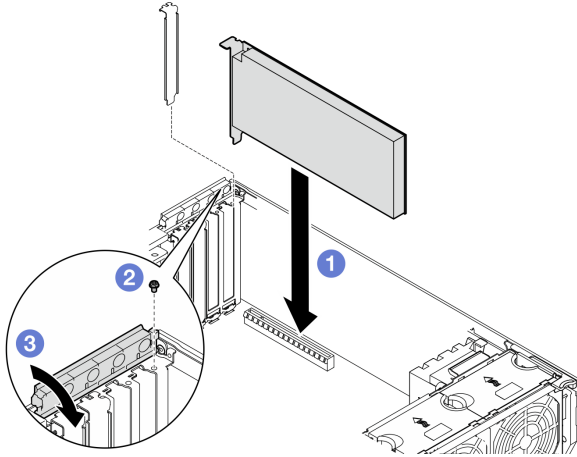

Figure 105. Installation of a HL PCIe adapter
- To replace an existing PCIe adapter, skip to the procedure of installation: Figure 105 “Installation procedure of a HL PCIe adapter” on page 131